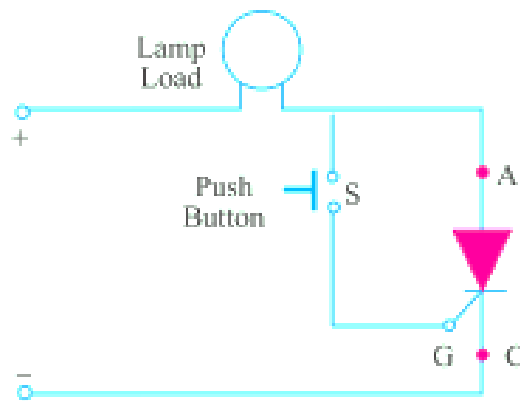

Figure 5.7: Example Circuit Using SCR
- In Figure 5.7 the lamp is off when S is open because the SCR does not conduct. A positive voltage is delivered to the gate when S is momentarily closed, forward-biasing the center P-N junction.